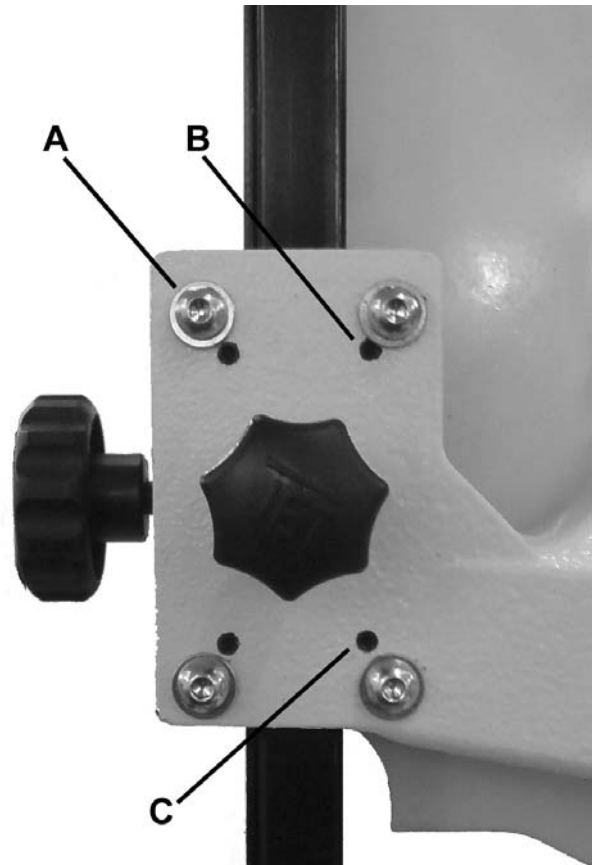

Figure 12a
3. If adjustment needs to be made left and right, slightly loosen the four bolts (A, Fig 12a) and make slight guide post adjustments as needed. Tighten bolts when completed.
4. If adjustment needs to be made forward and aft, adjustment is made by tightening and loosening the set screws (B, C, Fig 12a). The top set screws (B, Fig 12a) adjust the guide post back (when standing in front of saw), while the bottom set screws (C, Fig 12a) will adjust the guide post forward.